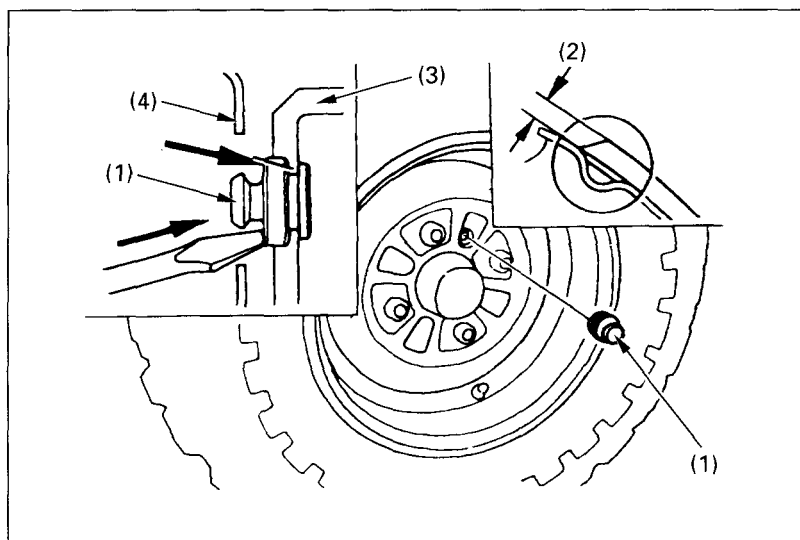
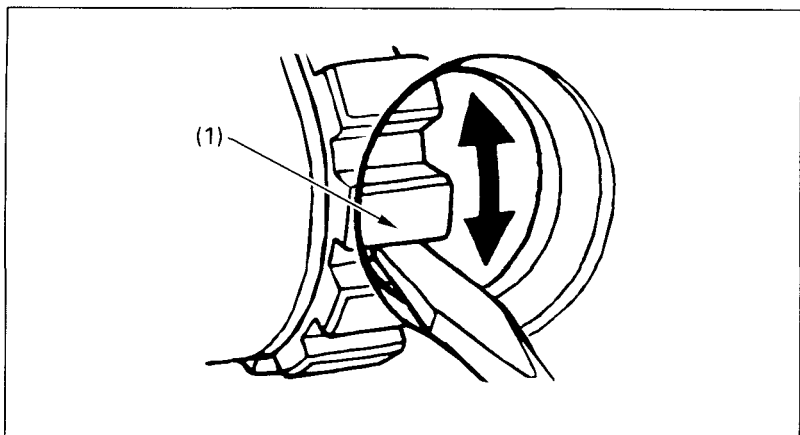

Fig. 4-23 (1) Inspection hole plug
Fig. 4-24
(1) Front brake lever
2. Remove the inspection hole plug (Fig. 4-23) and measure the lining thickness (2) on both front wheels.
3. If the brake lever free play and the brake shoe lining thicknesses are within the recommended limits, reinstall the inspection hole plugs, seating them into the inspection holes as shown in Fig. 4-23.
3. Beginning with either the left or right front wheel, remove the inspection hole plug (Fig. 4-23) and line up the hole with one of the brake adjusters (Fig. 4-24).
4. Using a screwdriver, turn the brake shoe adjuster (1) in the direction of the arrow until the front brake locks.
(1) Brake adjuster
7. Reinstall the inspection hole plug, seating it into the inspection hole as shown in Fig. 4-23.